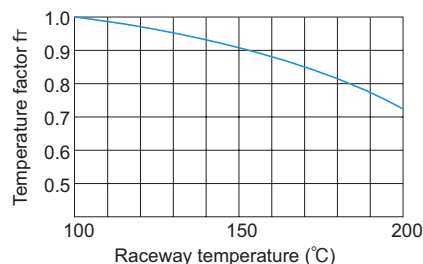

Fig.2 Temperature Factor (f_t)
- C : Basic dynamic load rating (N)
- P_c : Calculated load (N)
- f_r : Temperature factor (see Fig.2 on A-539)
If the temperature of the environment surrounding the operating Linear Bushing exceeds 100°C, take into account the adverse effect of the high temperature and multiply the basic load ratings by the temperature factor indicated in Fig.2.